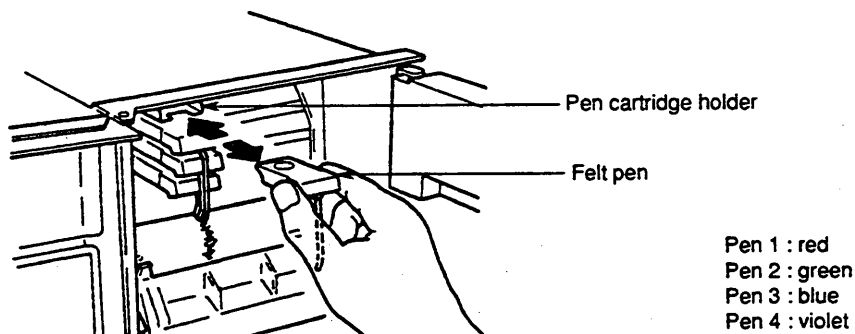

Figure 3-7. Felt-tip Pen Replacement
3. Grasp the protruding part of the felt-tip pen cartridge and gently pull/slide it out of the cartridge holder (see Figure 3-7).
4. Remove the pen cap before replacing the cartridge with a new one. Insert a new felt pen cartridge in the pen cartridge holder (see Figure 3-7). Start with the smallest pen.